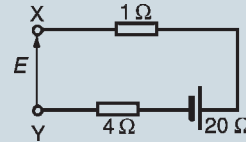

Figure 15.95
11. The open-circuit voltage E across terminals XY of Fig. 15.95 is: